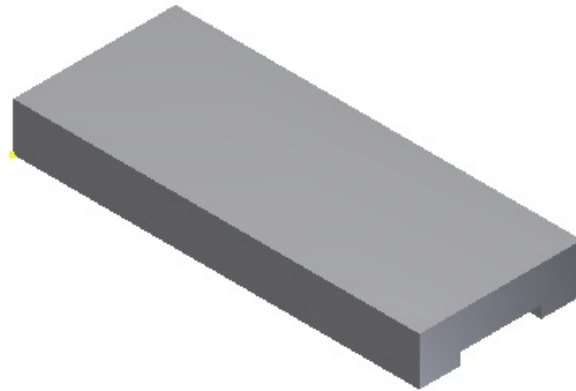

Figure 6-153 Base feature
6. Invoke the **Extrude** tool and extrude the base feature symmetrically about the YZ plane to a distance of 110 mm, as shown in Figure 6-153.
If the orientation of the model is not similar to the Figure 6-153, change the current orientation by using the ViewCube.